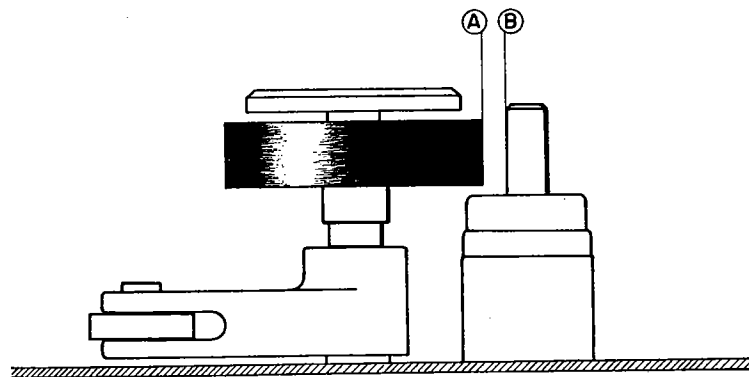

Fig. 9
Confirm the following prior to pinch wheel pressure measurement: (See Fig. 9)
The part of the pinch wheel over which the tape passes is parallel with the capstan shaft. (represented by **A** and **B** in Fig. 9)
- 2) In case **A** and **B** in Fig. 9 is not parallel, check for the following.